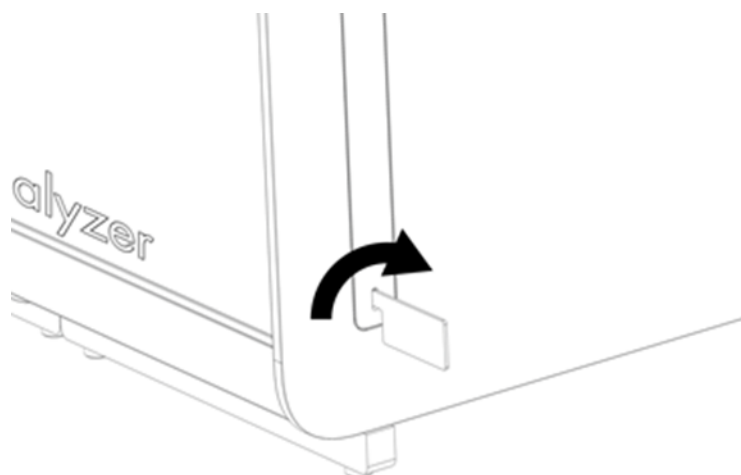

Figure 15. Removing protective covers.
3. Remove the protective covers from the side of the Analytical Module using the Protective Cover Removal Tool delivered with QIAstat-Dx Analyzer 2.0 (Figure 15).